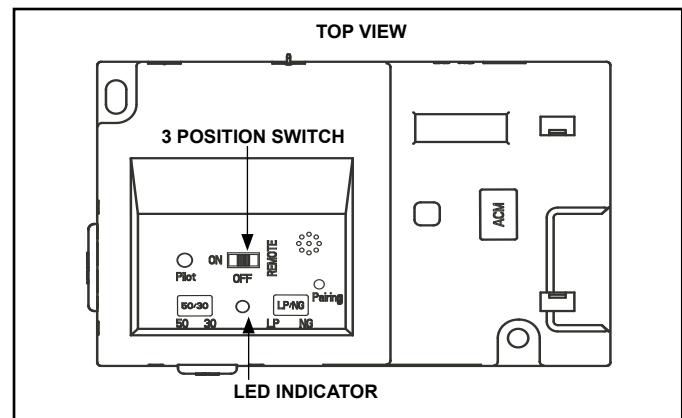

Figure 3.5 IFT-ECM
1. The Electronic Control Module (IFT-ECM) has a three-position ON/OFF/REMOTE selector switch that must be set for proper operation. See Figure 3.5. When changing switch positions, it is important to pause in each position for 1-2 seconds.